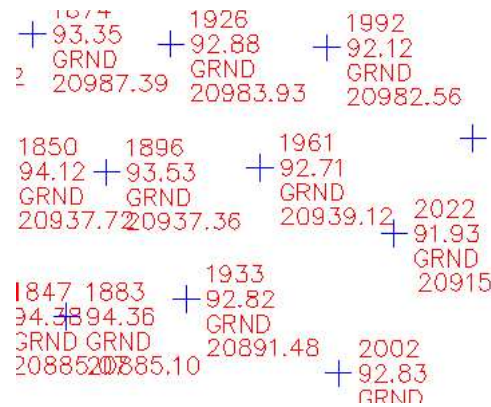

Figure 2-64 Ground points displaying the point number, elevation, description, and northing of each point
6. Next, choose the **OK** button; the **Point Group Properties - Ground Points** dialog box is closed. The ground points are displayed with a new point style and label style. Note that the point label displays the point number, elevation, description, and northing of each point, as shown in Figure 2-64.